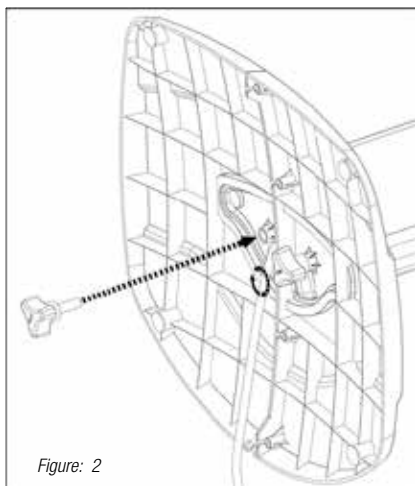

Figure: 2
- Assemble the main body and base by using the "Base Screws". Tighten the base and body firmly by screwing clockwise as indicated on figure 2. Make sure that assembly is correct and heater is well balanced on the base.